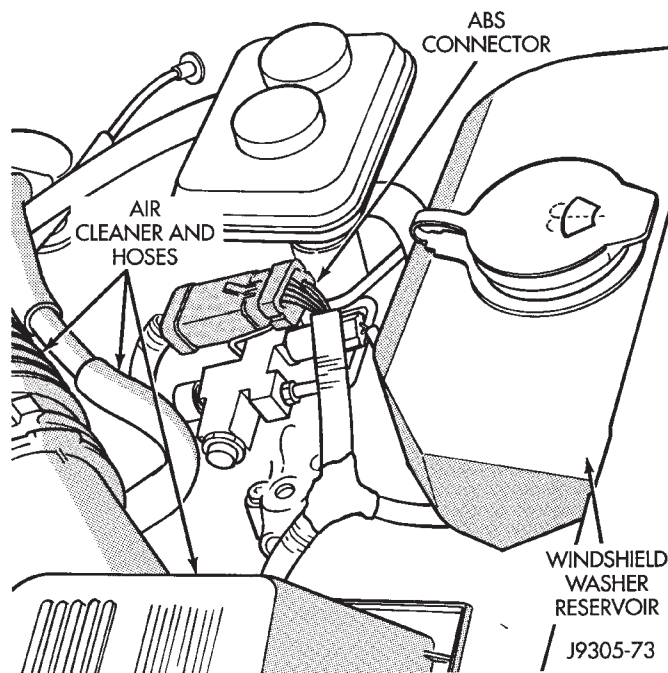

Fig. 5 Components To Be Removed/Disconnected For HCU Access
- (3) Remove air cleaner and hoses (Fig. 5).
- (4) Remove windshield washer reservoir (Fig. 5).
- (5) Position small drain container under master cylinder reservoir hoses.
- (6) Disconnect ABS harnesses (Figs. 5 and 6).